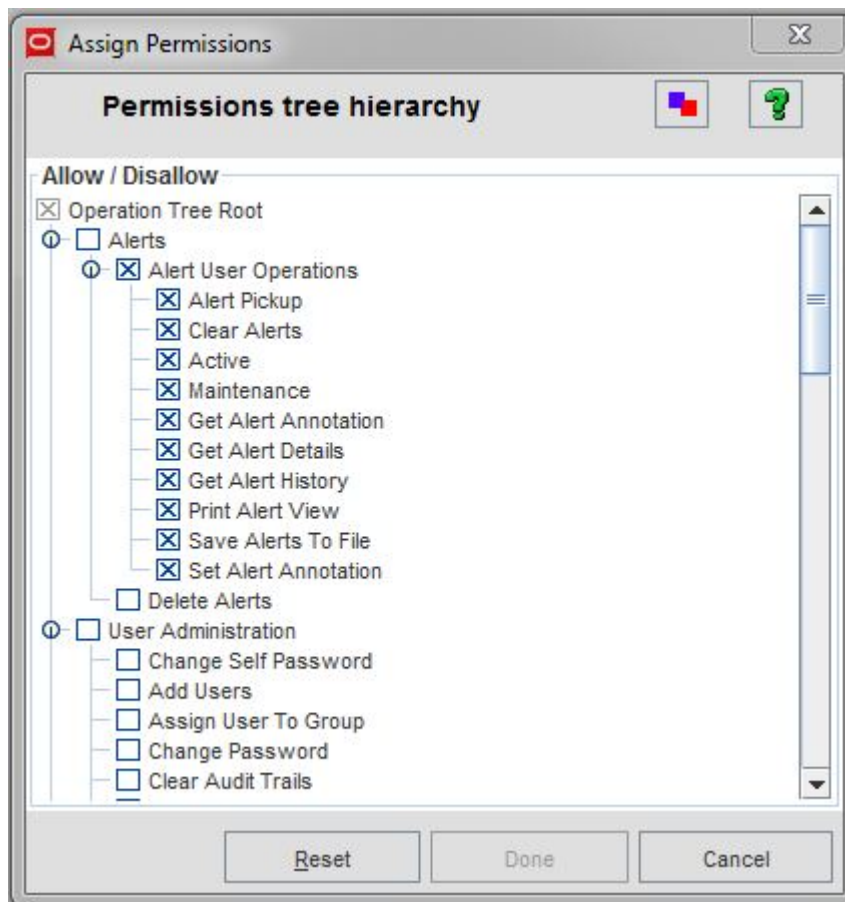

Figure 93: Assign Permissions Screen
1. Click the **Set Permissions** button to open the **Assign Permissions** screen shown in Figure 93: Assign Permissions Screen.